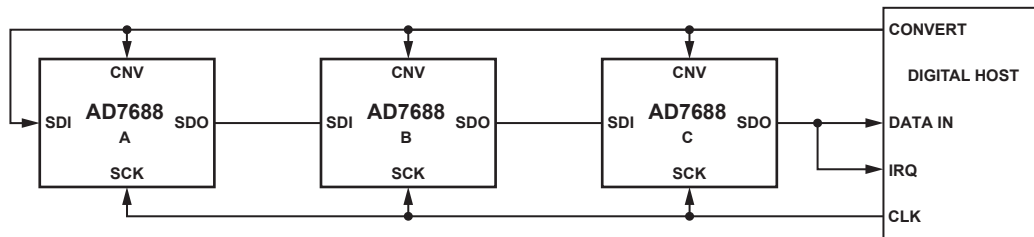
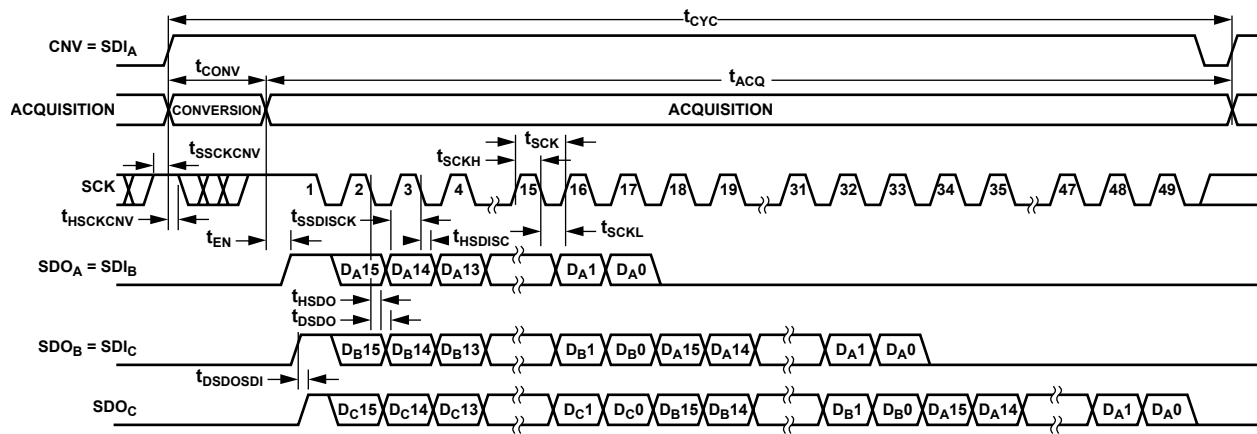

Figure 40. Chain Mode with BUSY Indicator Connection Diagram
Figure 41. Chain Mode with BUSY Indicator Serial Interface Timing
- In the chain mode, if SCK is high during the CNV rising edge (Figure 41).
A connection diagram example using three AD7688s is shown in Figure 40 and the corresponding timing is given in Figure 41.
Figure 40) SDO will be driven high. This transition on SDO can be used as a BUSY indicator to trigger the data readback controlled by the digital host. The AD7688 then enters the acquisition phase and powers down. The data bits stored in the internal shift register are then clocked out, MSB first, by subsequent SCK falling edges. For each ADC, SDI feeds the input of the internal shift register and is clocked by the SCK falling edge. Each ADC in the chain outputs its data MSB first, and $16 \times N + 1$ clocks are required to readback the N ADCs. Although the rising edge can be used to capture the data, a digital host also using the SCK falling edge will allow a faster reading rate and, consequently more AD7688s in the chain, provided the digital host has an acceptable hold time. For instance, with a 5 ns digital host set-up time and 3 V interface, up to five AD7688s running at a conversion rate of 300 kSPS can be daisy-chained to a single 3-wire port.